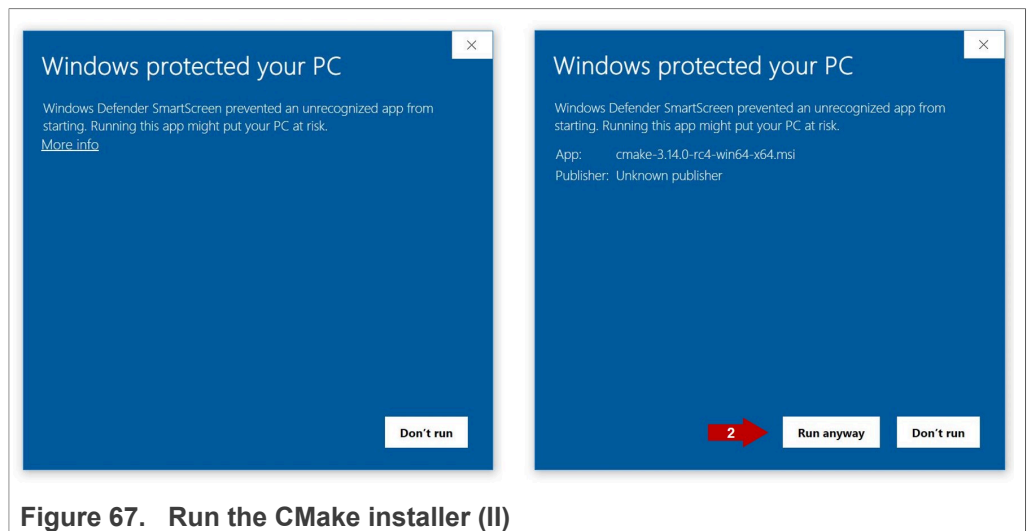

Figure 67. Run the CMake installer (II)
- If this is your case: Click (1) on **More info** and then (2) click on **Run anyway** as shown in Figure 67: